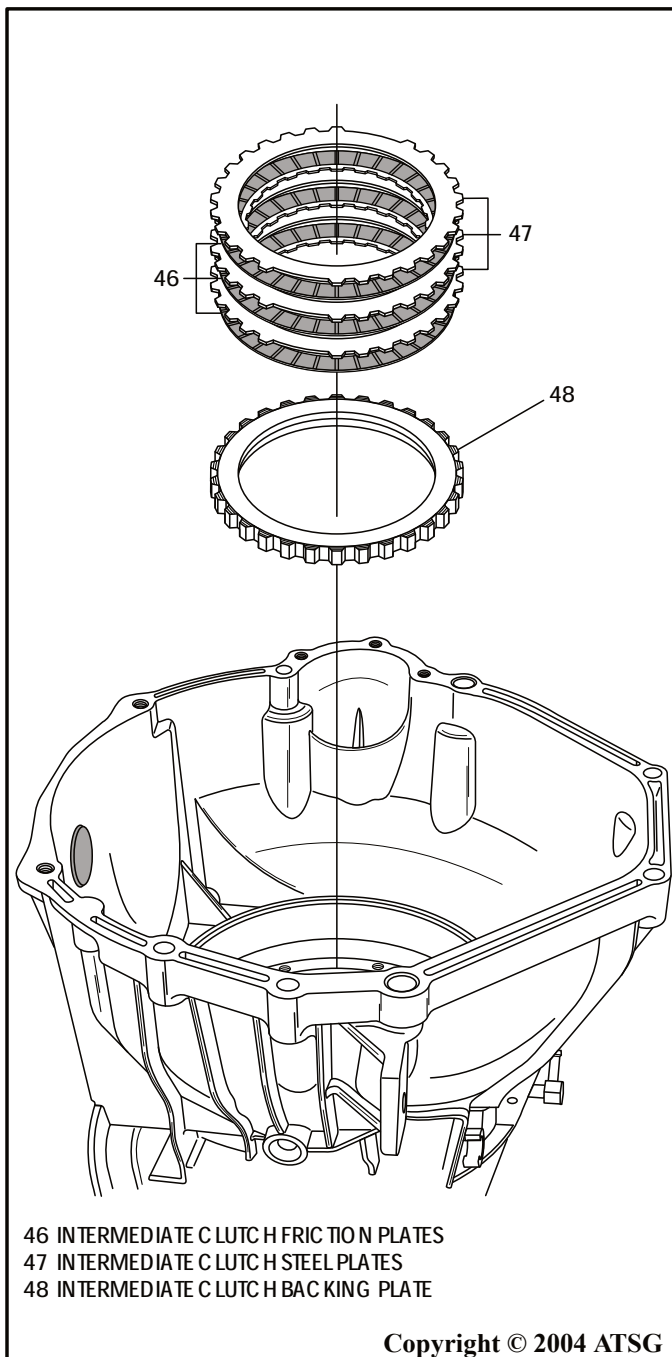

Figure 43
40. Remove the intermediate clutch plates and the intermediate clutch backing plate, as shown in Figure 43.